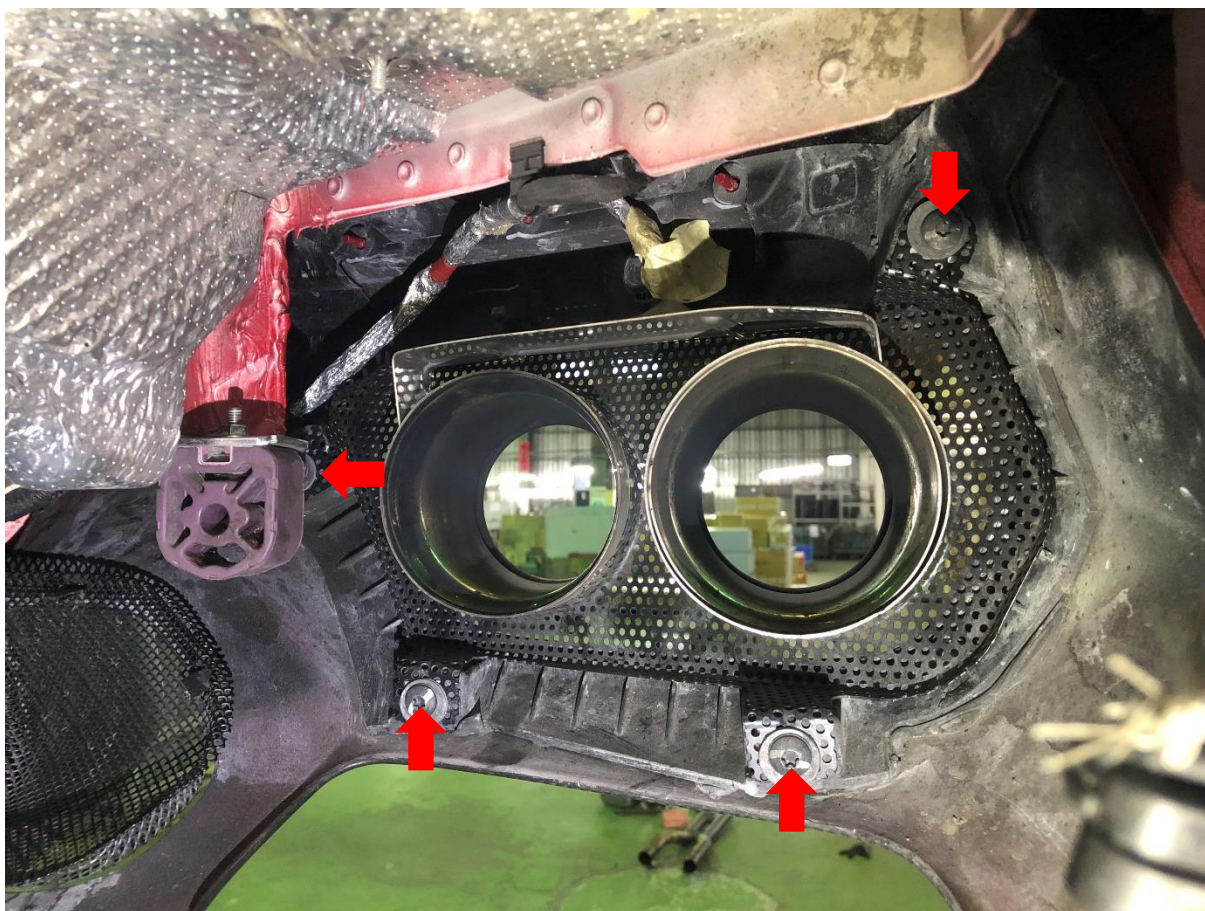

Fig. 13
5. Install the tips from the inside out, and fix the screws (Fig 13)